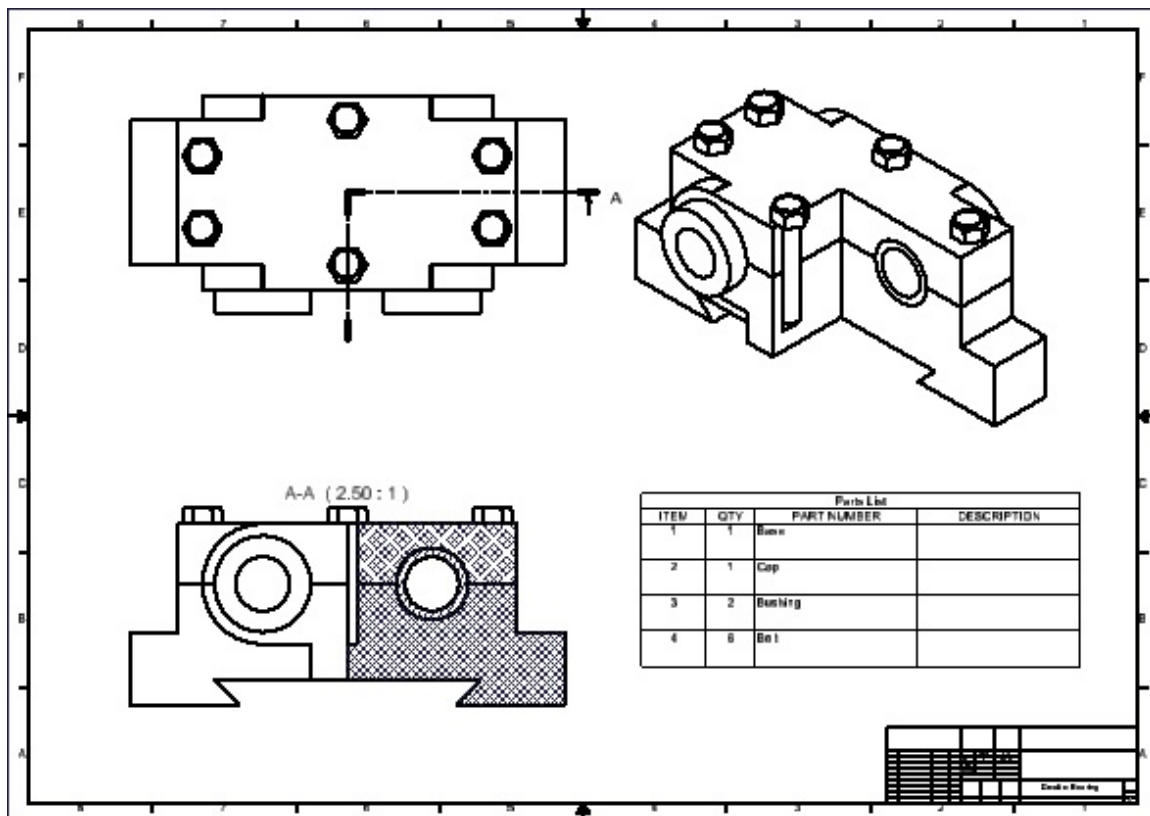

Figure 12-25 Drawing sheet with the default parts list
4. Specify the location of the parts list at the lower right corner of the sheet above the title block. The sheet with the default parts list is shown in Figure 12-25.